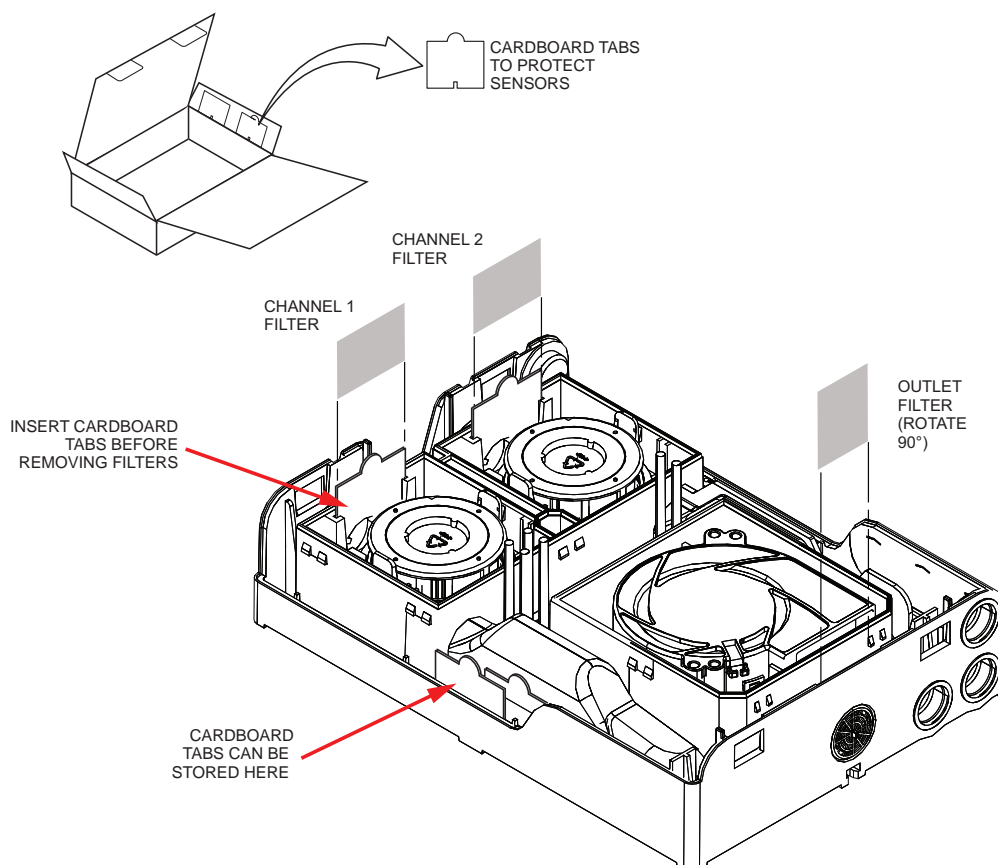

Figure 8-2: Filter Replacement
During maintenance, the sensors should be protected whenever the filters are removed. The shipping box is designed with four cardboard protection tabs that can be removed and inserted in place of the filters to provide protection. See Figure 8-2.
2. Using a small screwdriver, release six locking tabs, and remove Sensor Cover (see Figure 8-2). The filters cover and the rubber gasket may stick together when removing the cover. Apply pressure to pull the sensor cover off.